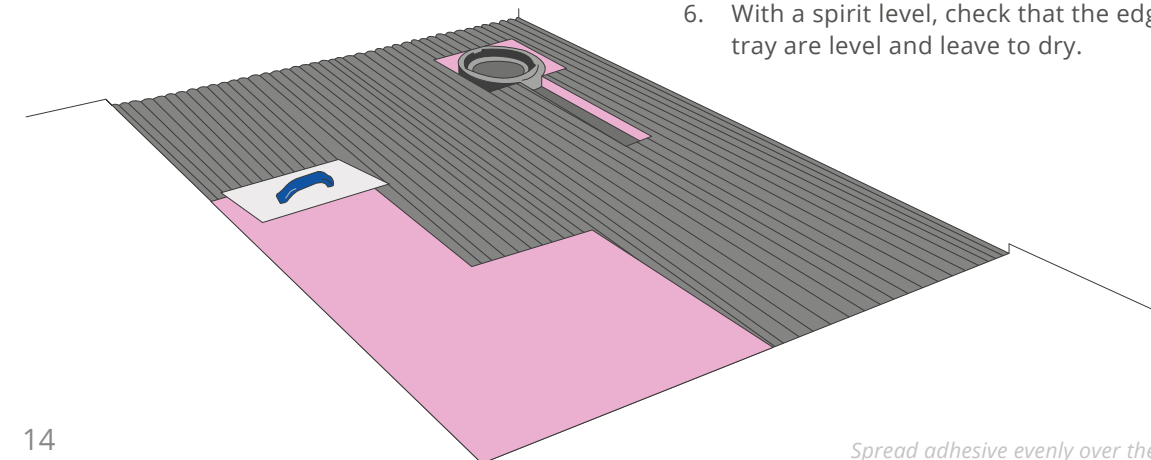

Fig. 18
1. Spread tile adhesive evenly over the area where the shower tray is to be installed, being careful to clean away any adhesive on the rim of the drain (Fig.18). We recommend a rapid-setting, flexible, cement-based, category C2 tile adhesive. Follow the manufacturer's instructions for the mix ratios.